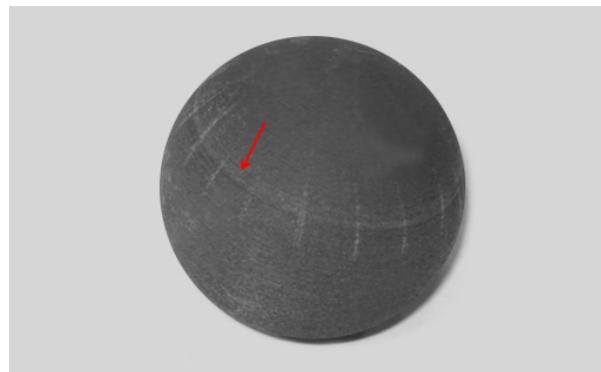

Figure 3: This model has a "seam" where the print job was interrupted.
- Stopping and resuming the print job may adversely affect model quality and color uniformity (Figure 3). Therefore, before printing with Agilus30, ensure that the print job is not interrupted. Check that the waste container is not full and that there is sufficient printing material loaded.